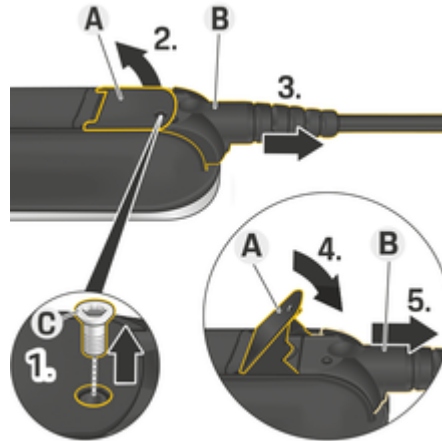

Fig. 18: Disconnecting cables
1. Remove screw **C** (Fig. 18) using a suitable tool.
2. Lift lever **A** (Fig. 18).
3. Pull out plug **B** (Fig. 18) until you first feel resistance.